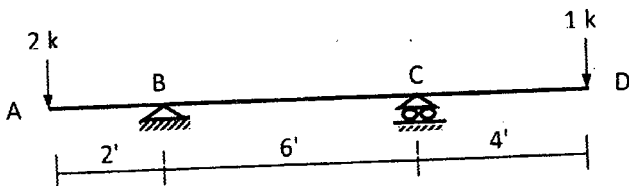

FIGURE. 10
13. Calculate the deflection at A and rotation at A and B of the beam shown in Figure 10. Given: $EI_{AB} = EI_{CD} = 20,000$ kip-ft², $EI_{BC} = 40,000$ kip-ft². (14)